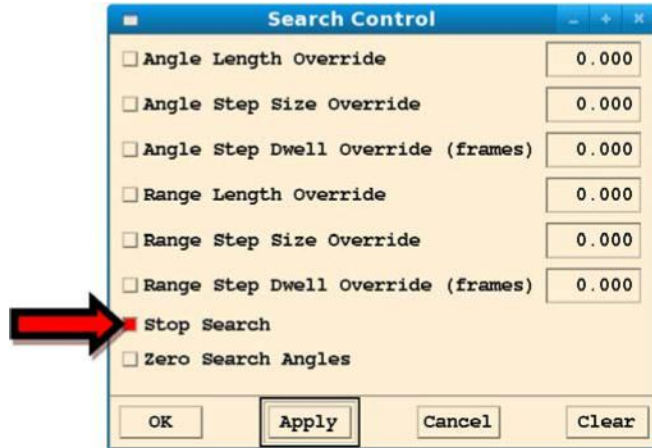

Figure 3-15: Search control window
a. **Control => Search**; Select the **Stop Search** checkbox (Figure 3-15).